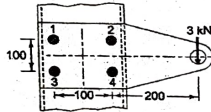

Figure 1
- Q6 (a) A steel plate subjected to a force of 3 kN and fixed to a vertical channel by means of four identical bolts is shown in Figure 1. The bolt are made of plain carbon steel 45C8 ($S_{yt} = 340 \text{ N/mm}^2$) and the factor of safety is 2. Determine the diameter of shank. All dimensions are in mm. (7.5)